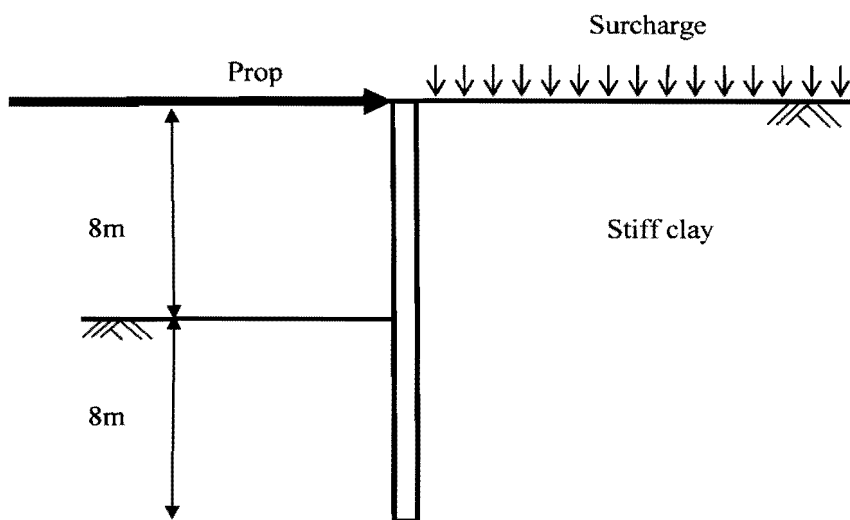

Fig.1
4. A retaining wall, propped at the ground surface, is to be constructed in order to construct an 8 m deep station box for an underground railway, as shown in Fig. 1. The soil profile consists of a stiff clay with a unit weight  $\gamma = 20 \text{ kN m}^{-3}$ , an undrained shear strength of 50 kPa and a critical state friction angle  $\phi' = 20^\circ$ . The retaining wall will penetrate a distance 8 m into the underlying clay. The water table is below the base of the retaining wall.